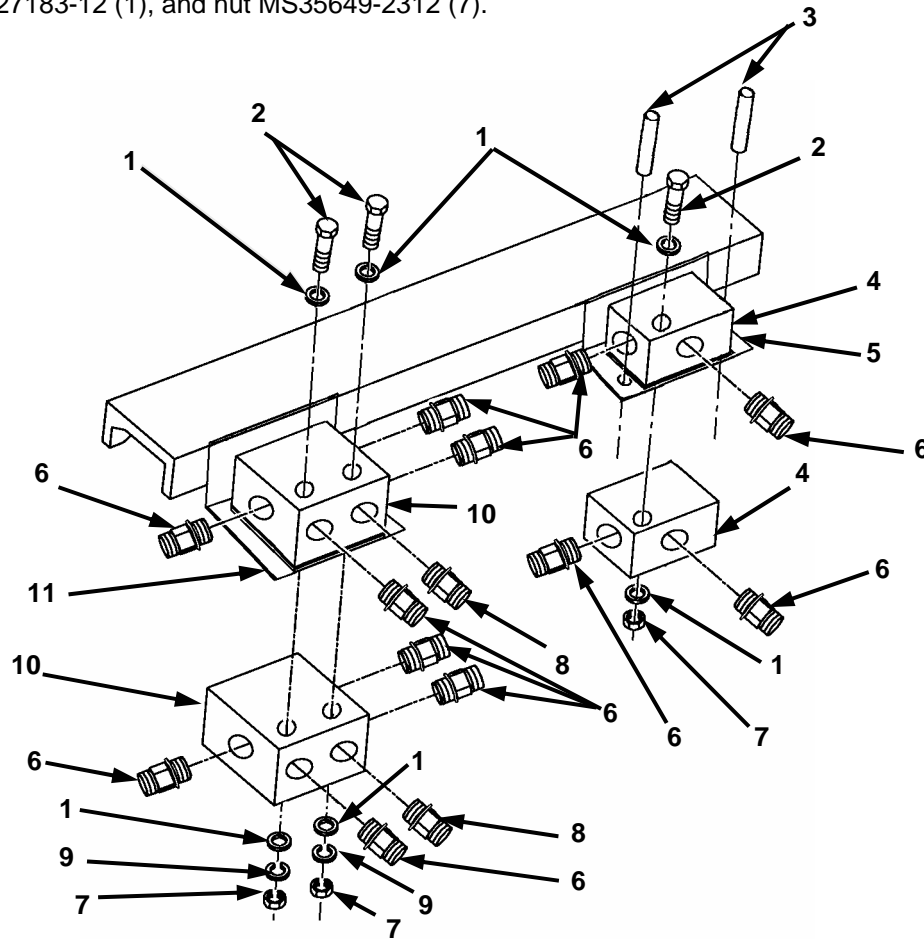

Figure 2-24. Valve Fittings (2 of 2).
- b. Install two valves CWCG-LGN (4) next to port 4 and vented check valves CVCV XCN (3) and to valve bodies XP1/S (2).
- c. Secure two flow valve bodies (Figure 2-24, 4) to bracket (5) with bolt B1821BH031C350L (2), two flat washers MS27183-12 (1), and nut MS35649-2312 (7).